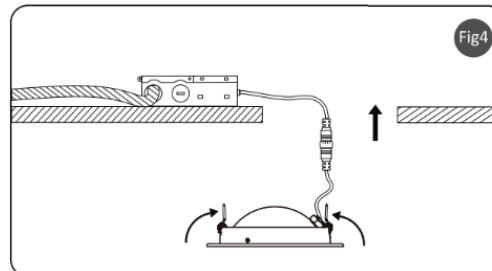

Fig4
- 4.** Push the spring-loaded clips into the mounting hole upwards and insert the fixture into it. Release the clips and the fixture will be pulled flush to the ceiling, see Fig4.